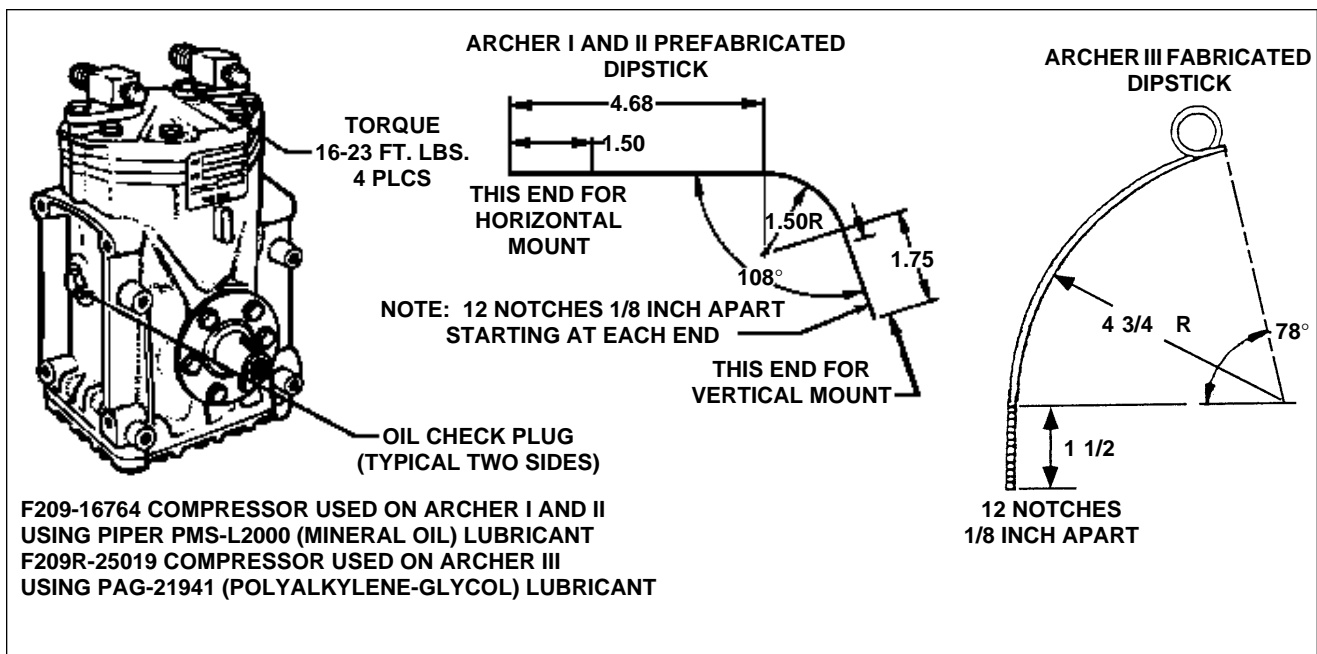

Figure 21-12. Compressor and Fabricated Oil Dipstick
- (1) Discharge system. (Refer to discharging.)
- (2) Make an oil dipstick. (Refer to figure 21-12.)
- (3) Remove 0.375 inch oil fill plug in top side of compressor crankcase.
- (4) Before inserting dipstick, crankshaft Woodruff key must be in up position. (Front face of compressor clutch is marked with a stamped K indicating key position.) Measure oil level from lowest point in crankcase. Use long end of dipstick. (See figure 21-12.)
- (5) When compressor is installed, use chart 2106 for proper amount of oil in crankcase.
- (6) Do not operate compressor with less than 6 ounces oil. Do not add more than 10 ounces oil. On systems using R-12 refrigerant, use Piper refrigerant oil PMS-L2000 or equivalent 500 viscosity refrigerant oil. On systems utilizing HFC-1342, use PAG-21941.
- (7) Evacuate and charge system. (Per evacuating the system and charging the system.)